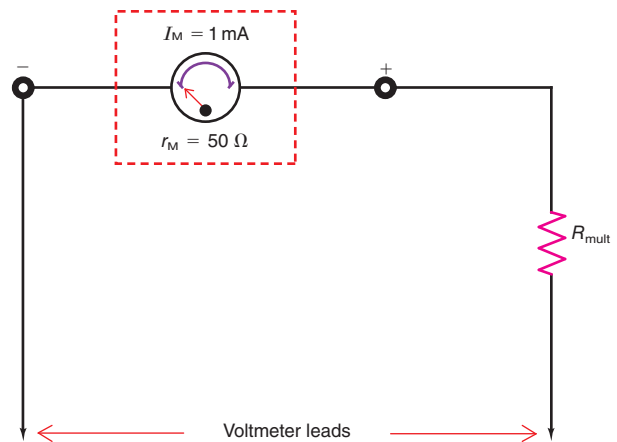

Figure 12-22
- 12.4 Calculate the required multiplier resistance, R_{mult} , in Fig. 12-22 for each of the following voltage ranges: (a) 10 V; (b) 500 V.